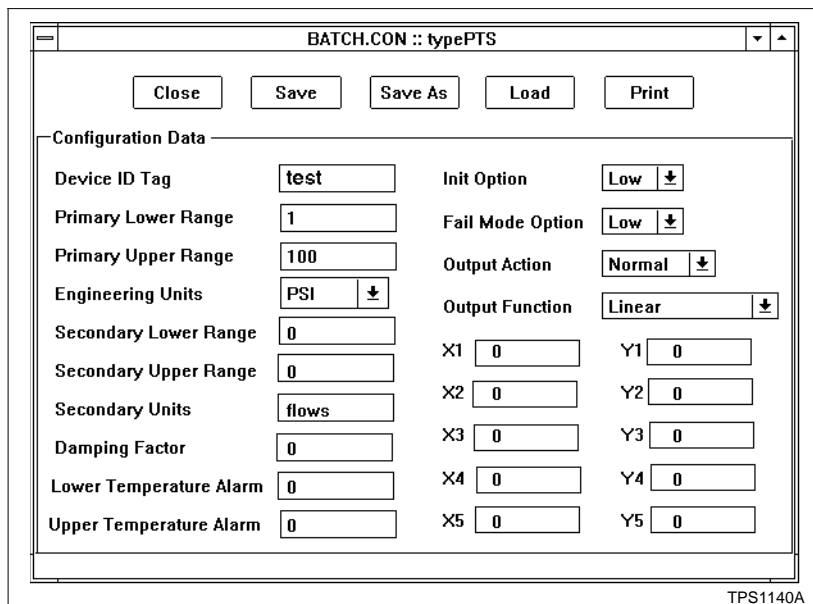

Figure 3-8. Configuration Data Window
3. Select a configuration file and click on *Open*. The configuration data window displays (Fig. 3-8). At the top of the window are operation buttons.